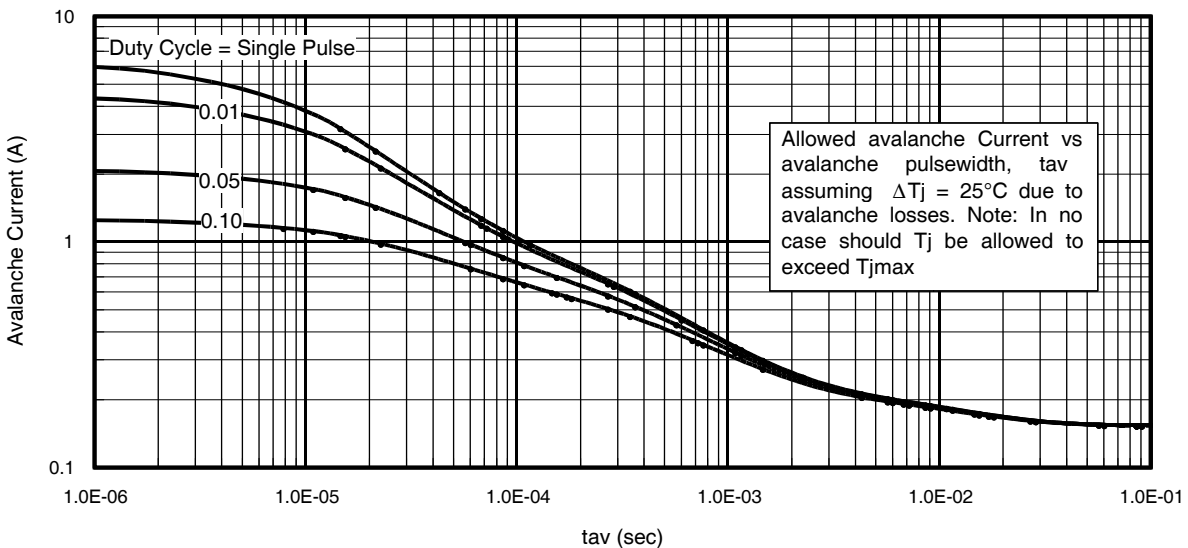

Fig 14. Typical Avalanche Current Vs. Pulsewidth
- ① Repetitive rating; pulse width limited by max. junction temperature. ④ R_{θ} is measured at T_J of approximately 90°C .
② Starting $T_J = 25^\circ\text{C}$, $L = 0.32\text{mH}$, $R_G = 25\Omega$, $I_{AS} = 13A$. ⑤ Limited by T_{jmax} . See Figs. 14, 15, 17a, 17b for repetitive avalanche information
③ Pulse width $\leq 400\mu s$; duty cycle $\leq 2\%$.
Notes on Repetitive Avalanche Curves , Figures 14, 15:
7. ΔT = Allowable rise in junction temperature, not to exceed T_{jmax} (assumed as 25°C in Figure 14, 15).